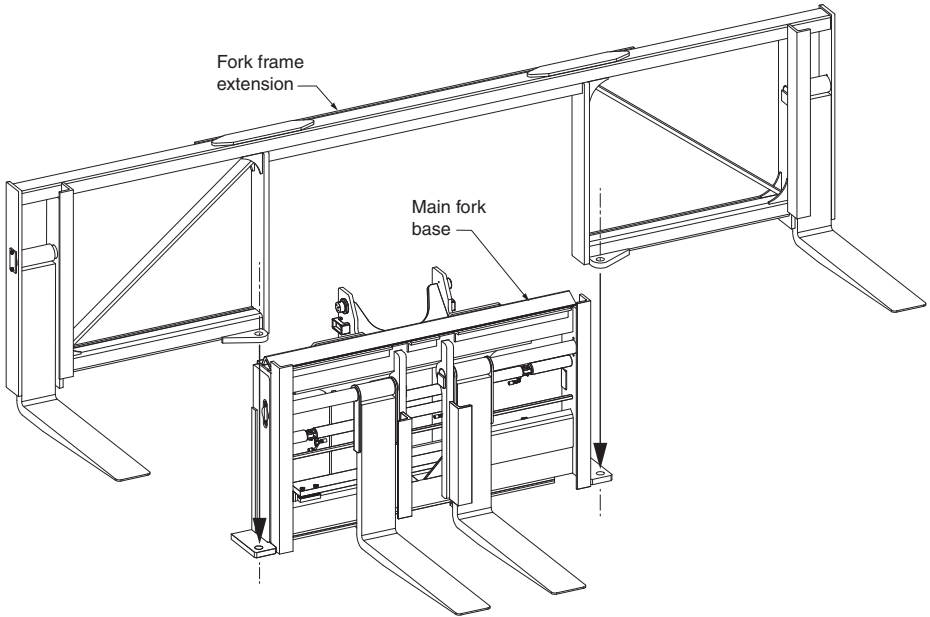

Figure 4-1, Optional Fork Frame Extension
1. If your attachment comes with a fork frame extension (see Figure 4-1) that is not attached to the main fork frame, follow truck manufacturer's instructions to install the main integral base and fork frame before adding the fork frame extension.
3. Pin the two frames together as shown in Figure 4-1